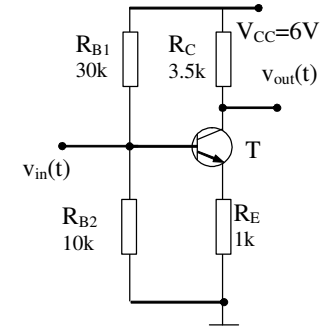

Fig 6. Distributed-load configuration.
17. For the setup in Fig. 6 (distributed-load), determine the maximum amplitude of the input signal such that the transistor does not become saturated (consider $V_{BE}=0.6$ V and $V_{CE sat}=0.2$ V, $\beta=50$).
18. For the setup in Fig. 6 (distributed-load), determine the maximum amplitude of the input signal such that the transistor does not enter the cut-off working mode (consider $V_{BE}=0.6$ V and $V_{CE sat}=0.2$ V, $\beta=50$).
19. For the setup in Fig. 6 (distributed-load), determine the maximum amplitude of the input signal such that the transistor works in normal active mode (consider $V_{BE}=0.6$ V and $V_{CE sat}=0.2$ V, $\beta=50$).